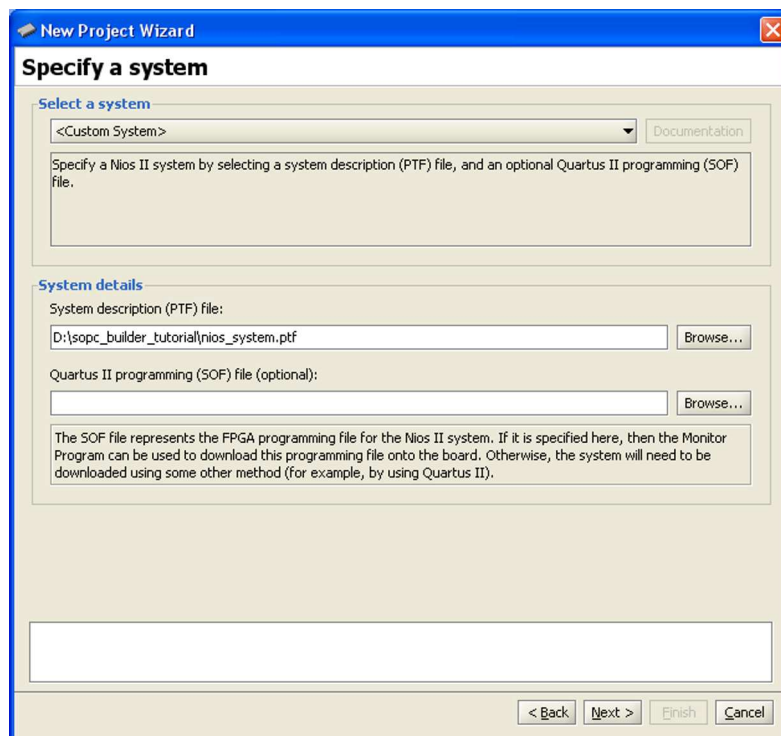

Figure 23. The System Specification window.
2. Enter `lights` as the Project name and click **Next >**, leading to Figure 23.